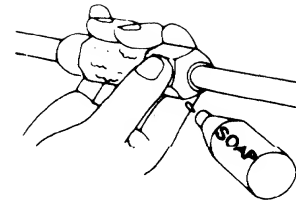

Fig. 10
- a) Check gas leakage of all joints with liquid soap. Fig. 10